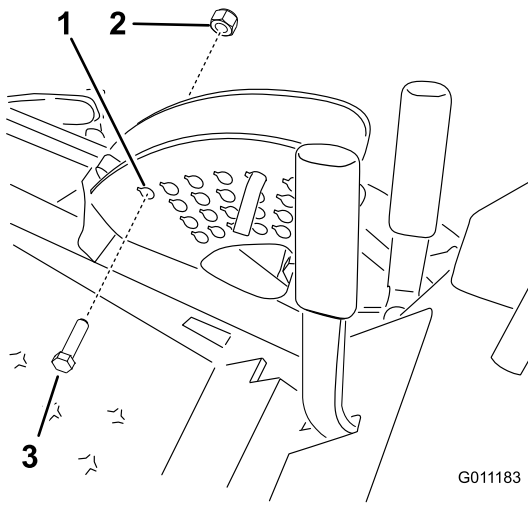

Figure 30
3. Lower the mower deck and install a bolt (1/2 x 2-1/2 inches) and nut (1/2 inch) into the 6 inch (152 mm) height-of-cut hole (Figure 30). This will prevent damage to the double pulley when raising the mower deck up.